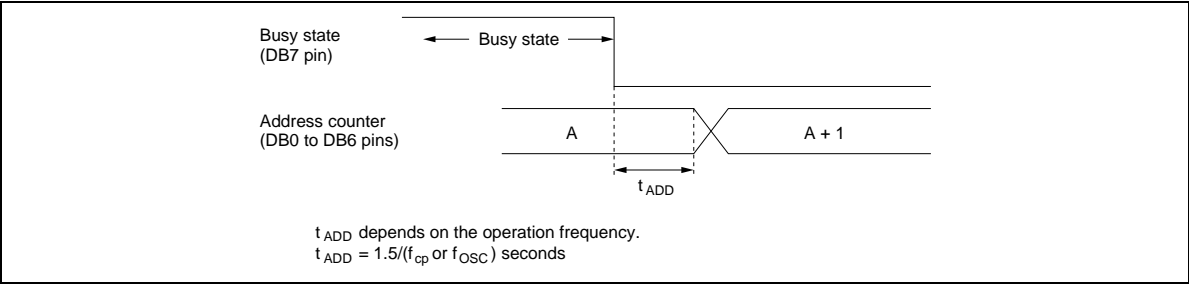

Figure 17 Address Counter Update
- \* After execution of the CGRAM/DDRAM data write or read instruction, the RAM address counter is incremented or decremented by 1. The RAM address counter is updated after the busy flag turns off. In Figure 17,  $t_{ADD}$  is the time elapsed after the busy flag turns off until the address counter is updated.